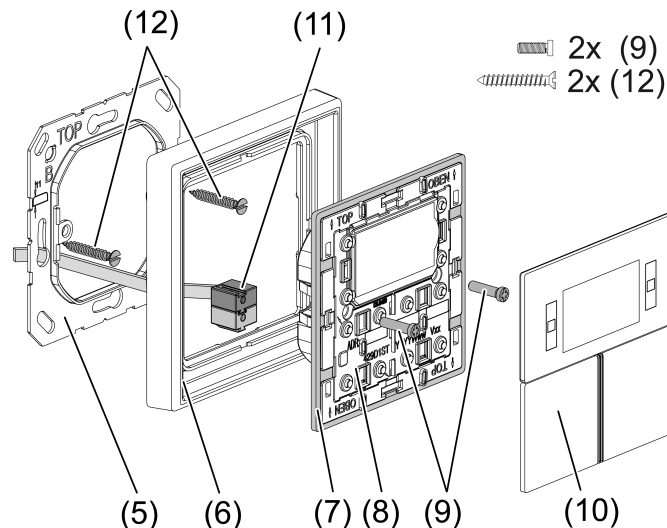

Figure 2: Mounting the controller module
- With the adapter frame (7) in the correct orientation, snap it from the front onto the module (8) (see figure 2). Note marking **TOP** =.